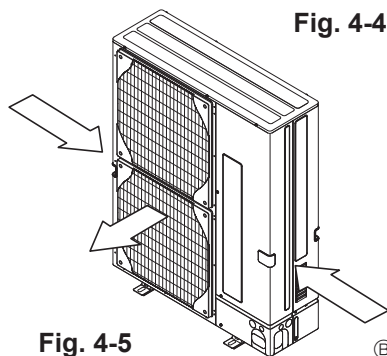

Fig. 4-5
- ③ Position the unit so that the air outlet blows perpendicularly to the seasonal wind direction, if possible. (Fig. 4-5)
(2) When installing a single outdoor unit (Refer to the next page)